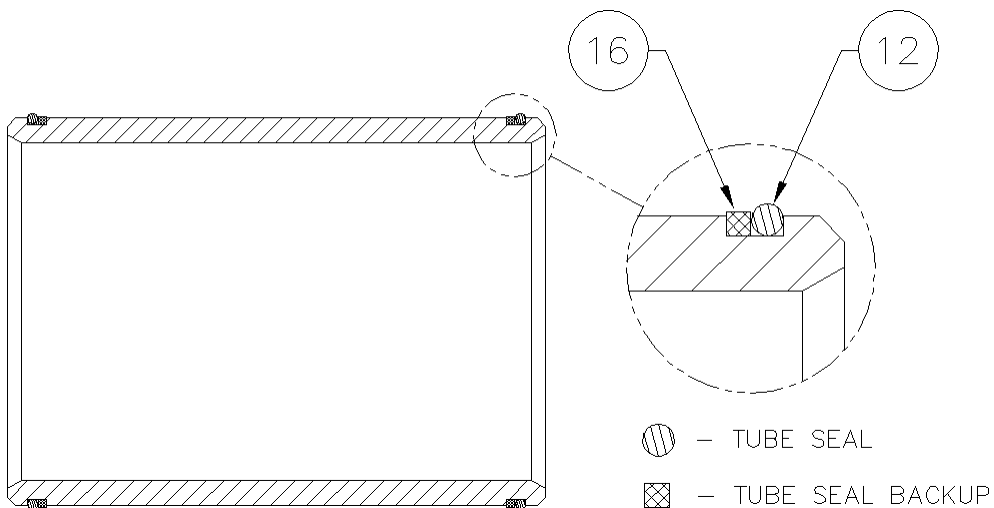
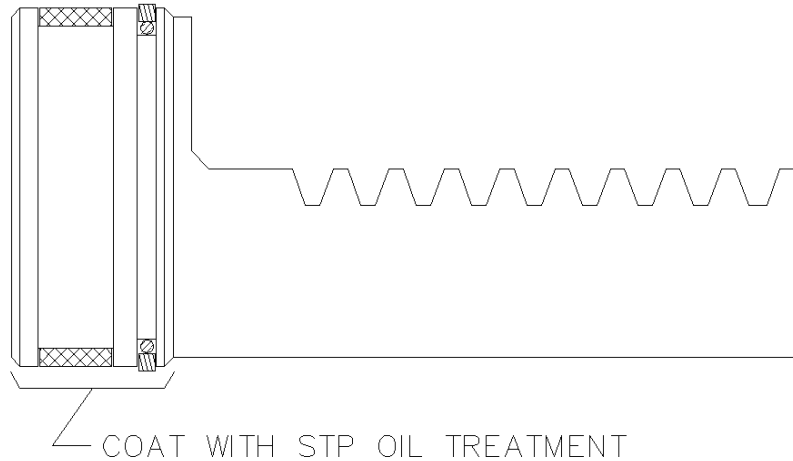
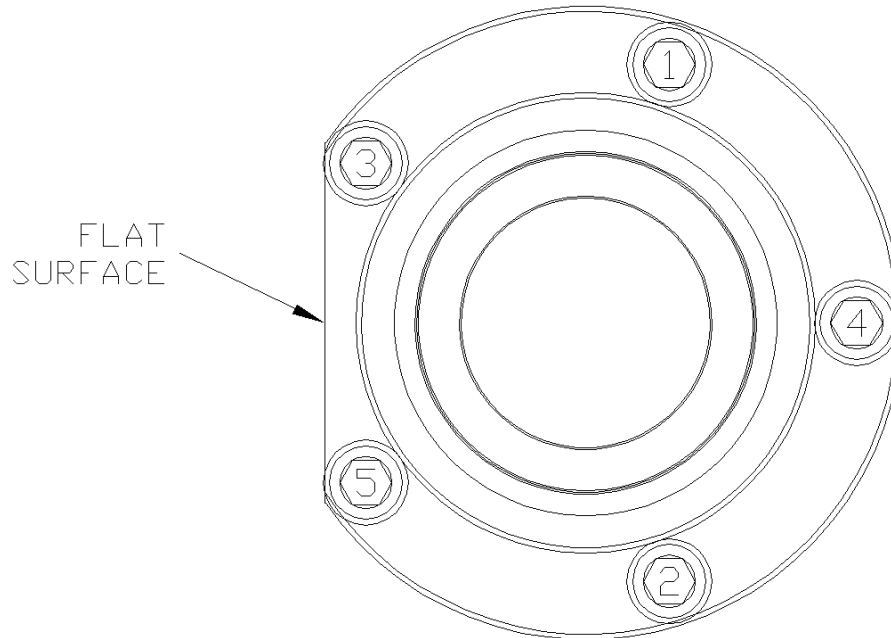
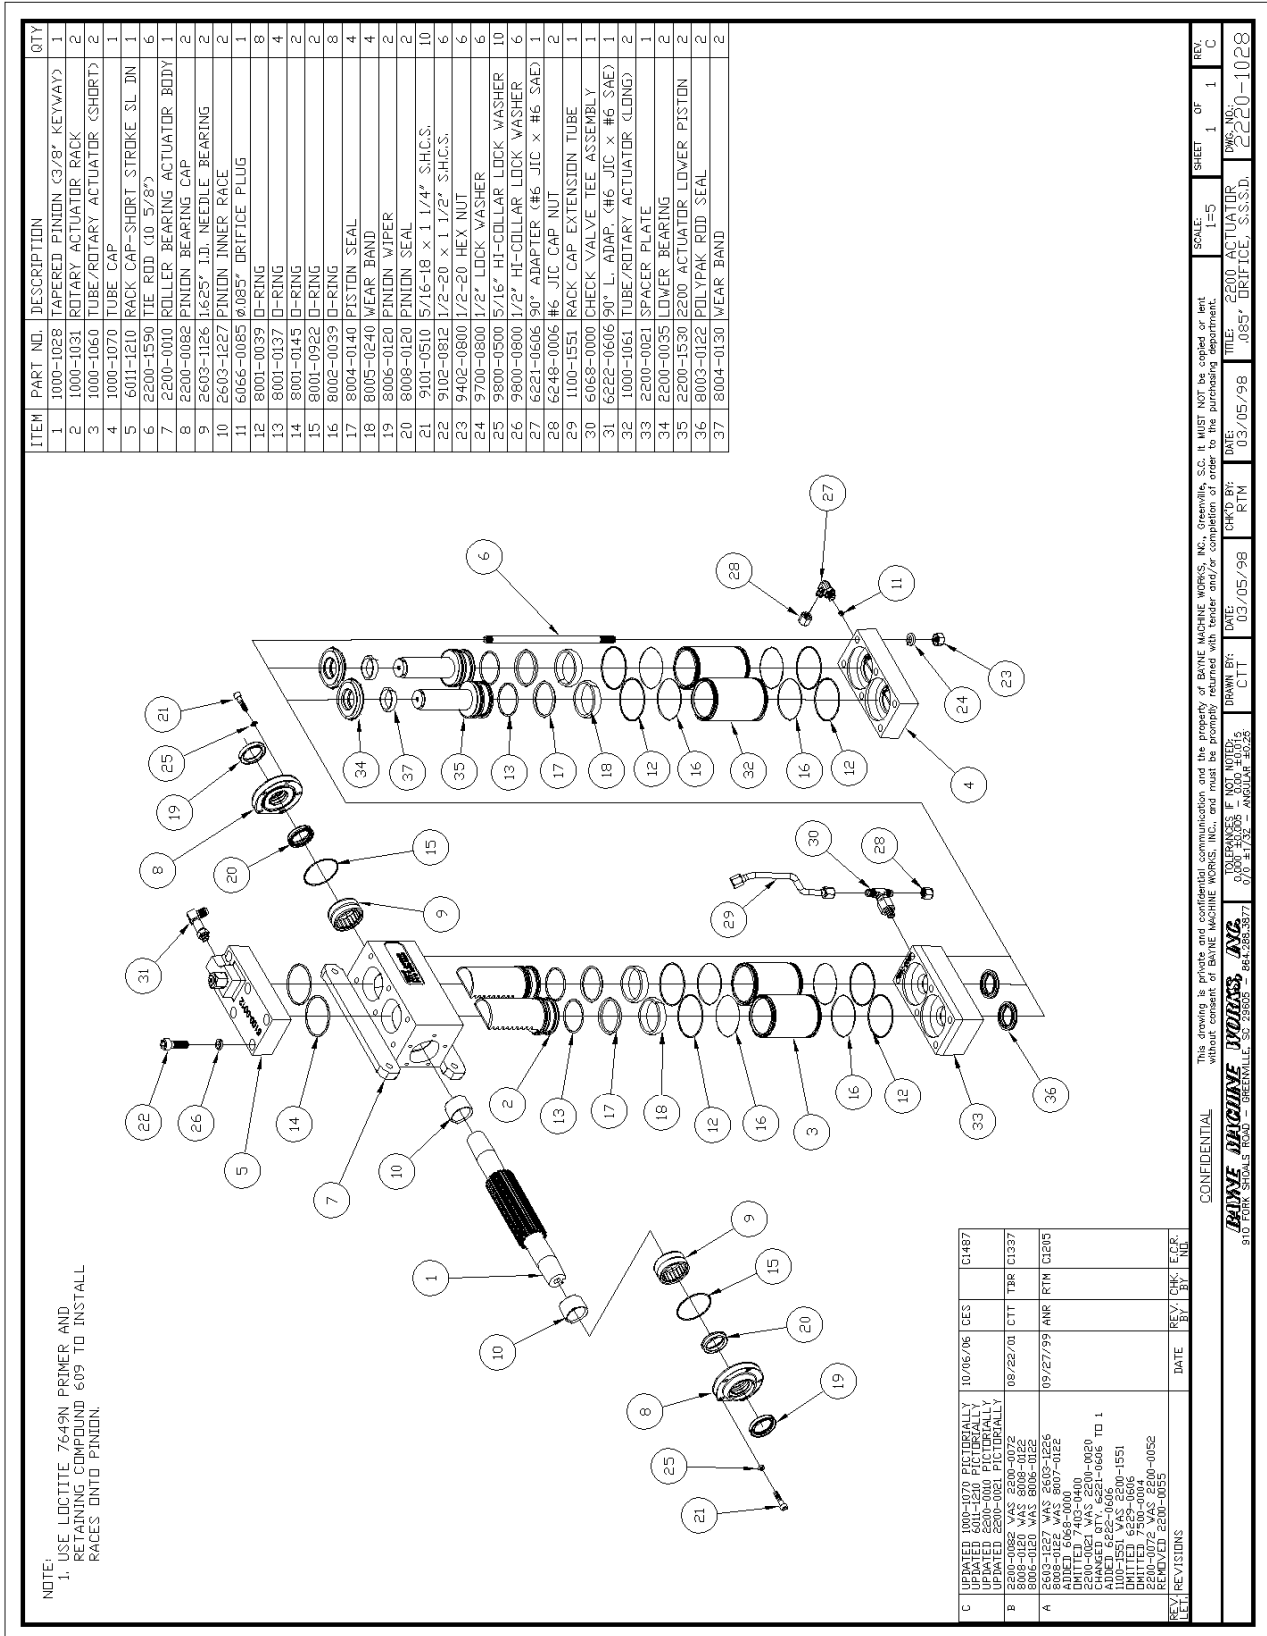

figure A-3
figure A-6
figure A-16
figure A-17
Before starting the assembly of the Rotary Actuator, refer to the exploded parts drawing and parts list (fig. A-17 found at the end of these instructions) to familiarize yourself with the individual components. Prepare a clean surface, in an area free of blowing dust and contaminants in which to assemble the Rotary Actuator. Be sure that all parts are thoroughly clean and dry before starting assembly.
- Install the tube seal (12) (fig. A-3) and “square” tube seal backup (16) on each end of the “shorter” actuator tubes (3) (fig. A-17). Be sure that the “square” tube seal backup ring is toward the inside of the tubes at both ends as shown. Press all rings firmly into the grooves. Repeat this procedure for the “longer” lower piston tubes (32) (fig. A-17).
6. Coat the head portion of the racks (2) (fig. A-17) with STP Oil Treatment as shown in figure A-6. Install the racks, head portion up with the teeth facing the flanges of the actuator body, into the dual set of bores in the body. Simultaneously slide the racks into the bores so that the racks mesh with the pinion in the same position. Rotate the pinion shaft to engage the racks into pinion.
8. Coat one end of the “shorter” actuator tubes (3) (fig. A-17) around the seal area with STP Oil Treatment as shown in figure A-8. Using a rubber mallet, drive the coated end of the tube onto the exposed rack until the tube end seats in the actuator body, making sure that the seals remain in place as the tube enters the counter-bore. Repeat this procedure for the other side.
14. Coat one end of the “longer” lower piston tubes (32) (fig. A-17) around the seal area with STP Oil Treatment as shown in figure A-8. Using a rubber mallet, drive the coated end of the tube into the exposed bore of the spacer plate until the tube end seats against the lower bearing, making sure that the seals remain in place as the tube enters the bore. Repeat this procedure for the other side.
15. Coat the head portion of the lower piston with STP Oil Treatment as shown in figure A-6.
16. Install the lower pistons (35) (fig. A-17) head portion up, into the lower bearings and lower piston tubes as shown in figure A-17. Tap the lower pistons using a rubber mallet until they stop against the racks.
17. Install the check valve tee assembly (30) (fig. A-17) into each side of the spacer plate.
18. Install the six tie rod studs (6) (fig. A-17) by screwing the short threaded end through the spacer plate and into the actuator body. Hand tighten only at this time (the torque needed will be applied later in the procedure).
19. Place the tube cap (4) (fig. A-17) on the table. Coat the sides of the two bores in the tube cap with STP Oil Treatment. Install the cap over the tubes and rod studs with the oil port positioned to the left as shown in figure A-17. Using a rubber mallet, tap the tube cap over the tubes until the tubes seat in the cap, making sure that the seals remain in place.
20. Install the hex nuts (23) (fig. A-17) and lock washers (24) on the tie rod studs. Torque the nuts to 50 ft-lb. in the sequence shown in figure A-12.
21. Place the rack cap (5) (fig. A-17) bore side up on the table and coat the edge of each bore with STP Oil Treatment. Install the rack cap seals (14) (fig. A-13) in the rack cap.
22. Reposition the actuator on the table mounting flanges down, and the lower tubes facing away from the assembler. Rotate the pinion shaft to allow 1" of the rack to protrude from the top of the actuator body. Install the rack cap with the oil port positioned to the left hand side of the actuator opposite the bottom oil port located in the tube cap as shown in figure A-17. Attach the rack cap to the actuator body using the socket head bolts (22) (fig. A-17) and lock washers (26). Torque the bolts to 90 ft-lb. in the sequence shown in figure A-14.
24. Re-center the actuator pinion in the actuator body by tapping on one end of the shaft with a rubber mallet. Install the roller bearing (9) (fig. A-17), over the pinion shaft and inner race, and into the actuator body. Repeat this procedure for the other bearing.
27. Wrap masking tape or electrical tape around the pinion to cover the edges at the keyway. Slide the bearing cap assembly over the pinion shaft with the seal backup facing toward the actuator body and the flat surface of the flange shown in figure A-16 facing toward the actuator mounting flanges. Press against the bearing cap until the shoulder seats against the actuator body, making sure that the seals remain in place. Install the bearing cap bolts (21) (fig. A-17) and lock washers (25). Hand tighten only at this time. Repeat this procedure for other bearing cap.
28. After both bearing caps have been installed, torque all bearing cap bolts to 30 ft-lb. in the sequence shown in figure A-16.
29. Install the long 90° fitting (31) (fig. A-17) into the oil port on the side of the rack cap (5). Hand tighten only at this time.
30. Install the rack cap extension tube assembly (29) (fig. A-17) between the long 90° fitting (31) in the rack cap and the check valve tee assembly (30) as shown in figure A-17. Tighten all connections.
31. Install the orifice plug (11) (fig. A-17) into the oil port on the side of the tube cap (4), and install the short 90° fitting (27) into the oil port over the orifice plug as shown in figure A-17. Turn the fitting so that it points down away from the rack cap (5) and back toward the mounting flanges on the actuator body and tighten.
32. Install the cap nuts (28) (fig. A-17) onto the open fittings to prevent contamination of the unit until the hoses are installed.